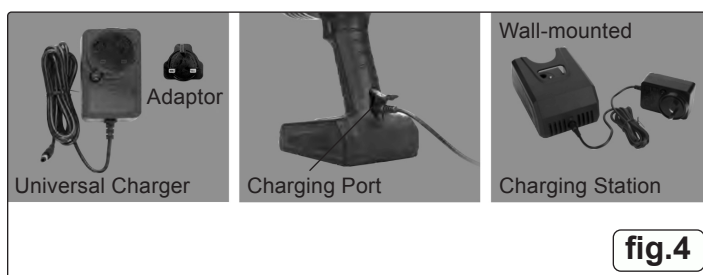

fig.4
- 7.1. Ensure the light is switched off before charging, place the light inside the wall-mounted charging station. **NOTE:** The light can also be charged directly via the charging port on the light. Fig.4.